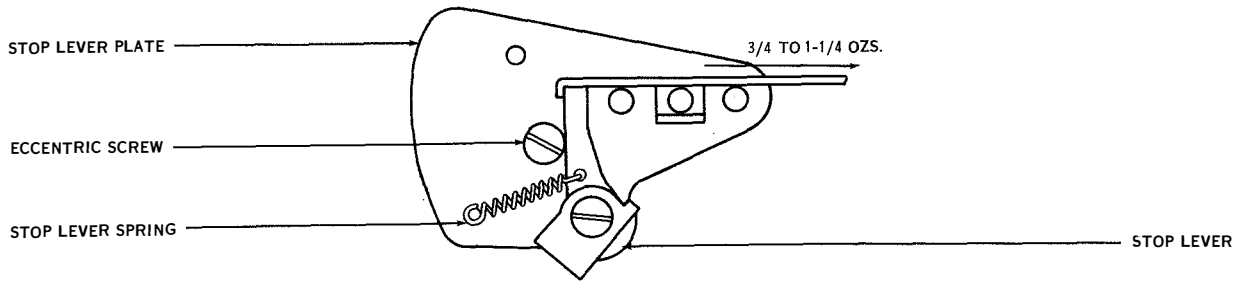

Figure 7-35. Stop Lever Spring Tension
(23) STOP LEVER SPRING TENSION. (See figure 7-35.)—A tension of ¾ to 1¼ ounces should be required to start the stop lever moving.